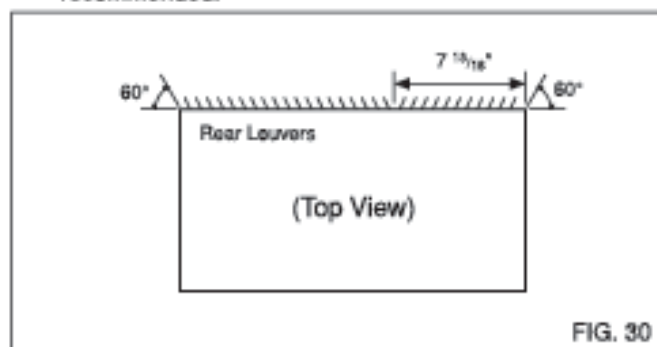

FIG. 30
- 1** Redirect the louvers at the back of the wall sleeve to 60° angle as shown in the FIG 30. The use of pliers is recommended.